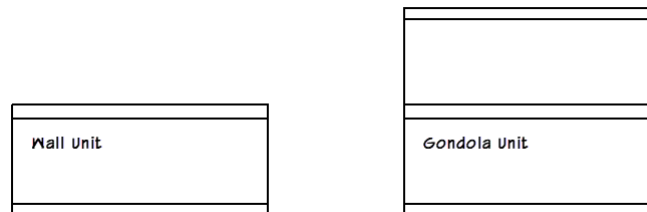

Figure 38
1. Remain in the *Sandbox* project file. Open the *Level 1* plan view (see Figure 38).